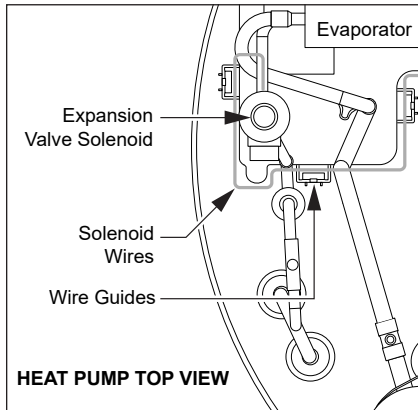

Figure 74 - Locating Expansion Valve Solenoid
- 10** Locate expansion valve solenoid within the heat pump compartment (see Figure 74).